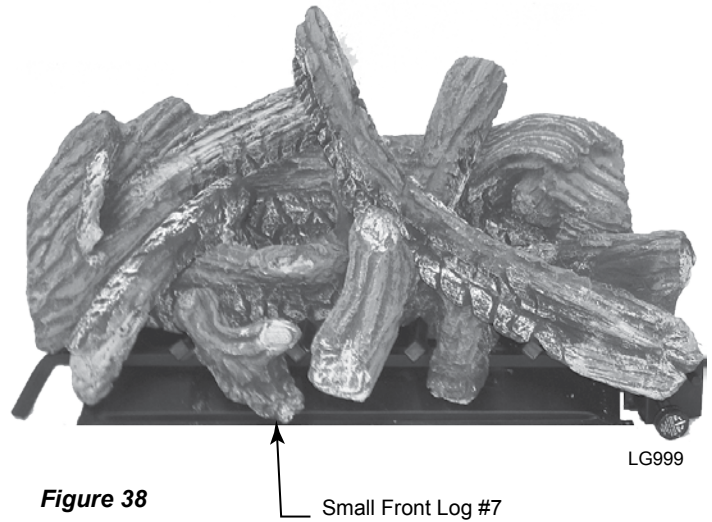

**Figure 37**
5. Place left top crossover log (#5) up against left top log. *Figure 37*
6. Rest right top log (#6) on center crossover log and front of grate. *Figure 37*